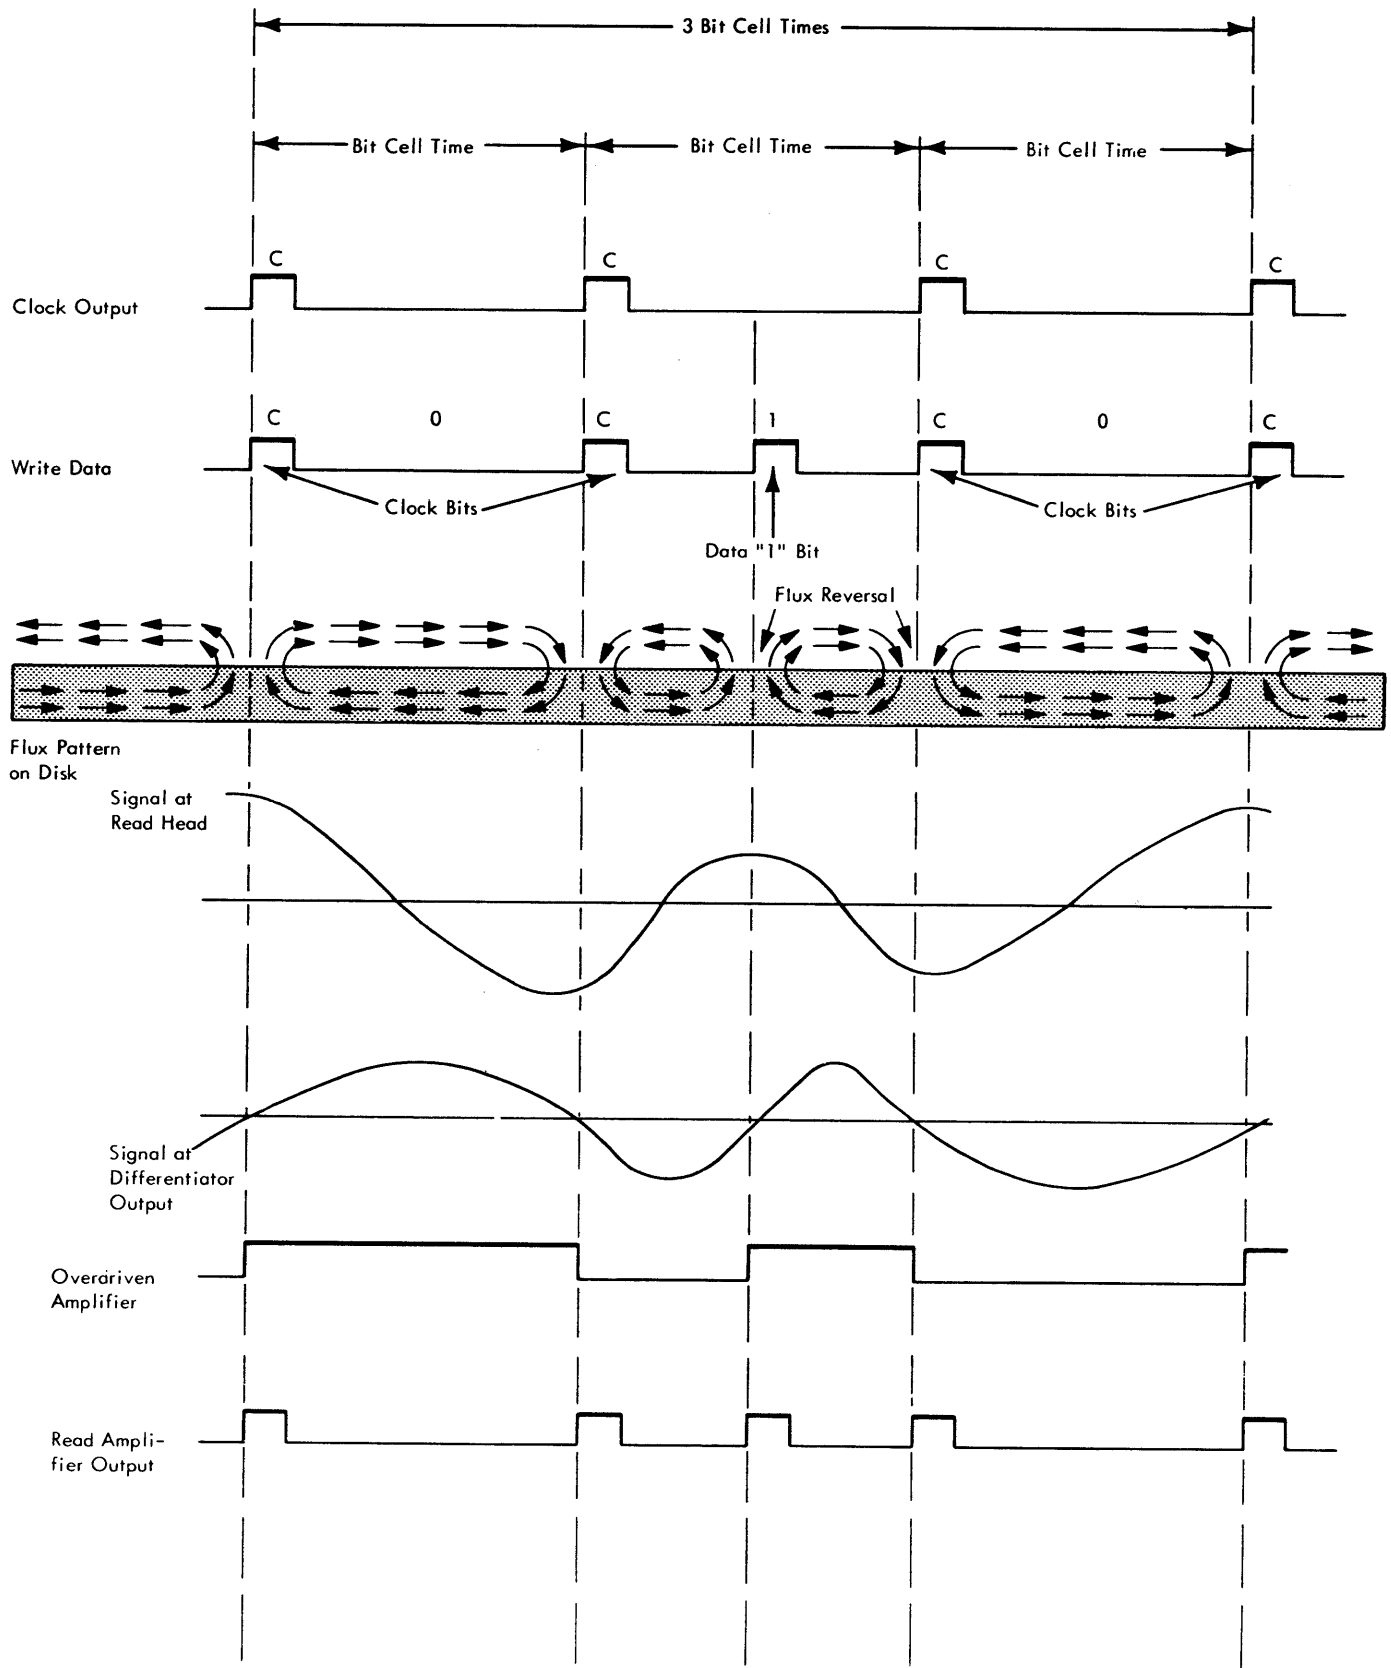

Figure 3-12. Double Frequency Recording Flux and Pulse Relationship
- A pulse occurs every 800 ns, or every 400 ns when data is present, causing the frequency of the read data to vary (Figure 3-12).
- The reduced amplitude of the preamp output at 1.25 MHz is amplified more by the differentiator circuit (Figures 3-12, 3-16) and tends to develop equal amplitude outputs for both frequencies.
- The differentiator output is overdriven and clipped in limiter circuits to provide a square wave signal (Figure 3-12, 3-16) which shifts in step with the peaks of the read head signal.